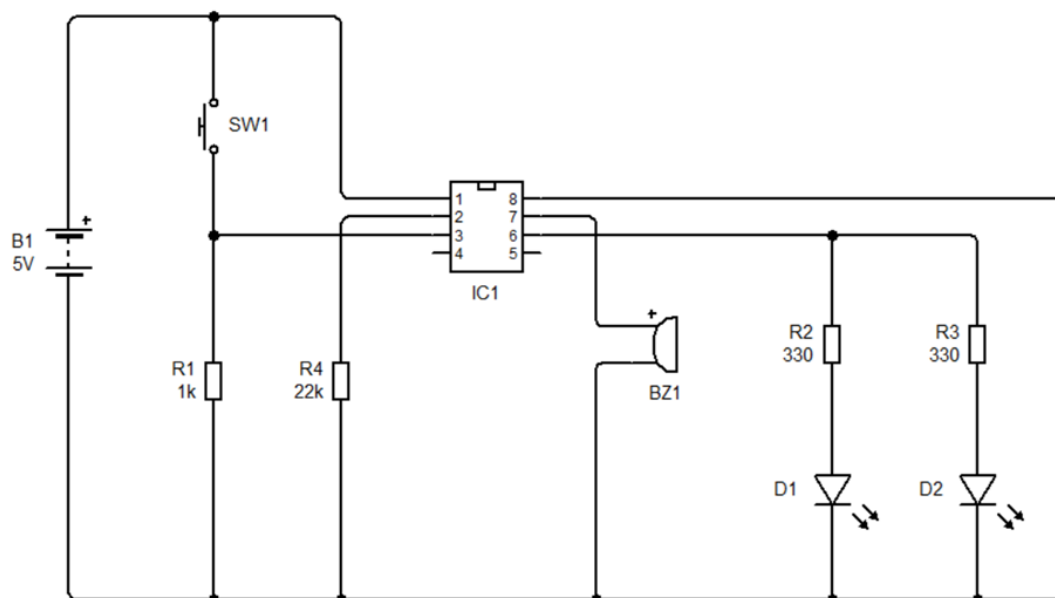

Figure 8
26. The manufacturers of the toy crane decided to make the crane move by using a microcontroller system. Figure 8 shows the schematic diagram of the circuit.
State the code of the pin where the following components are connected according to the circuit in Figure 8: